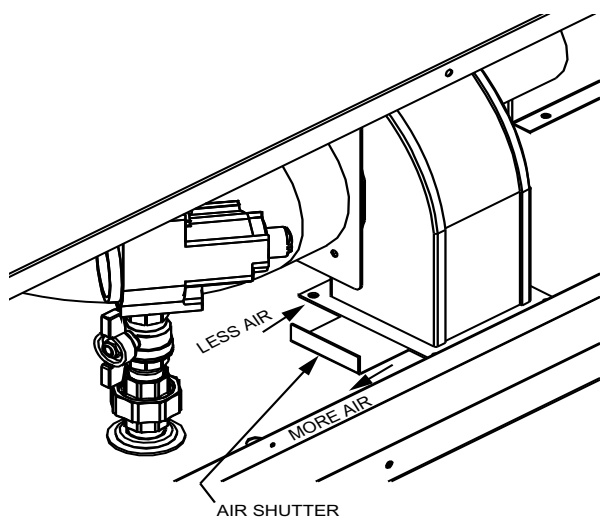
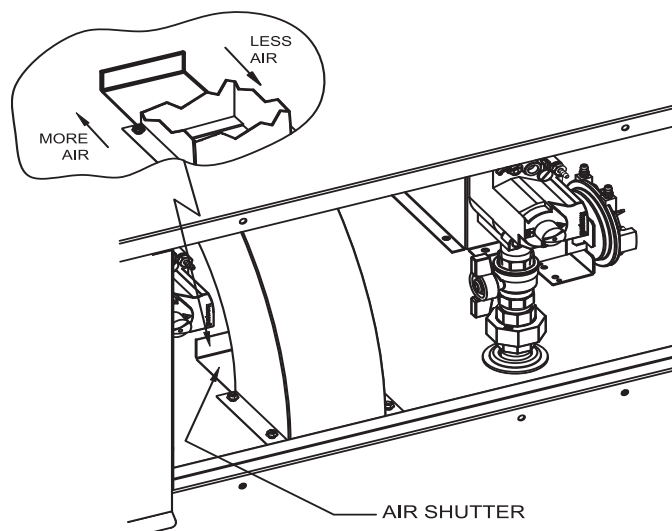

Figure 52 – Adjusting Air Shutter 500,000 - 750,000 Btu/hr
Figure 54 – Adjusting Air Shutter 990,000 - 2,070,000 Btu/hr Models
Note: On the 500,000 - 750,000 Btu/hr models the air shutter is adjusted on the side of the fan duct as depicted in Figure 52. On the 990,000 - 2,070,000 Btu/hr models the air shutter is adjusted on the rear of the fan duct as depicted in Figure 54.
3. Depending on model, the air shutter(s) may be located either on the side or the rear of the fan duct. Locate the air shutter at the side/rear of the fan duct (see Figure 52 and 54). Move the air shutter towards the rear or left side of the unit to increase air pressure. Move the air shutter towards the front or right side of the unit to decrease air pressure.